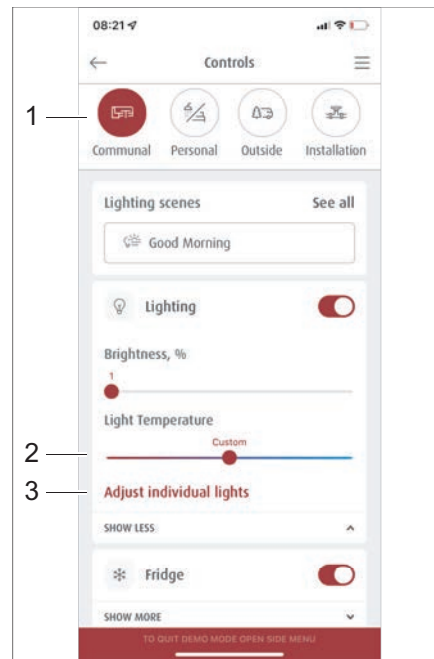
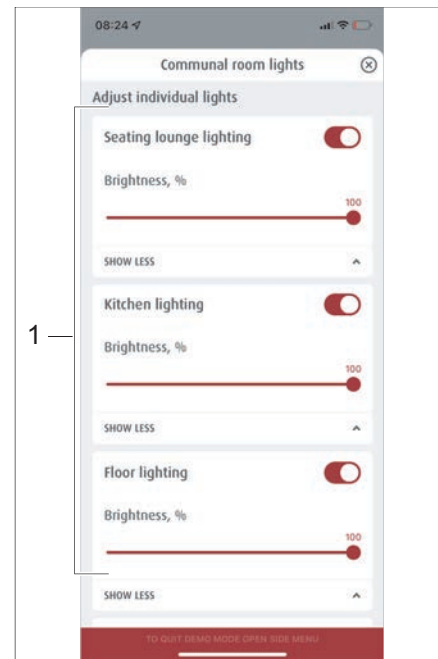

Fig. 279 Selecting preset scenarios
Fig. 280 Managing scenarios
- In the *Operation* menu, click on the *Living* (Fig. 279,1) button.
- In the *Living* menu, click on the *Set lights individually* (Fig. 279,3) button. The *Set lights individually* menu will open (Fig. 280).
- Select the desired lighting from the available options (Fig. 280,1) and use the sliding bar (Fig. 279,2) to set the light temperature.